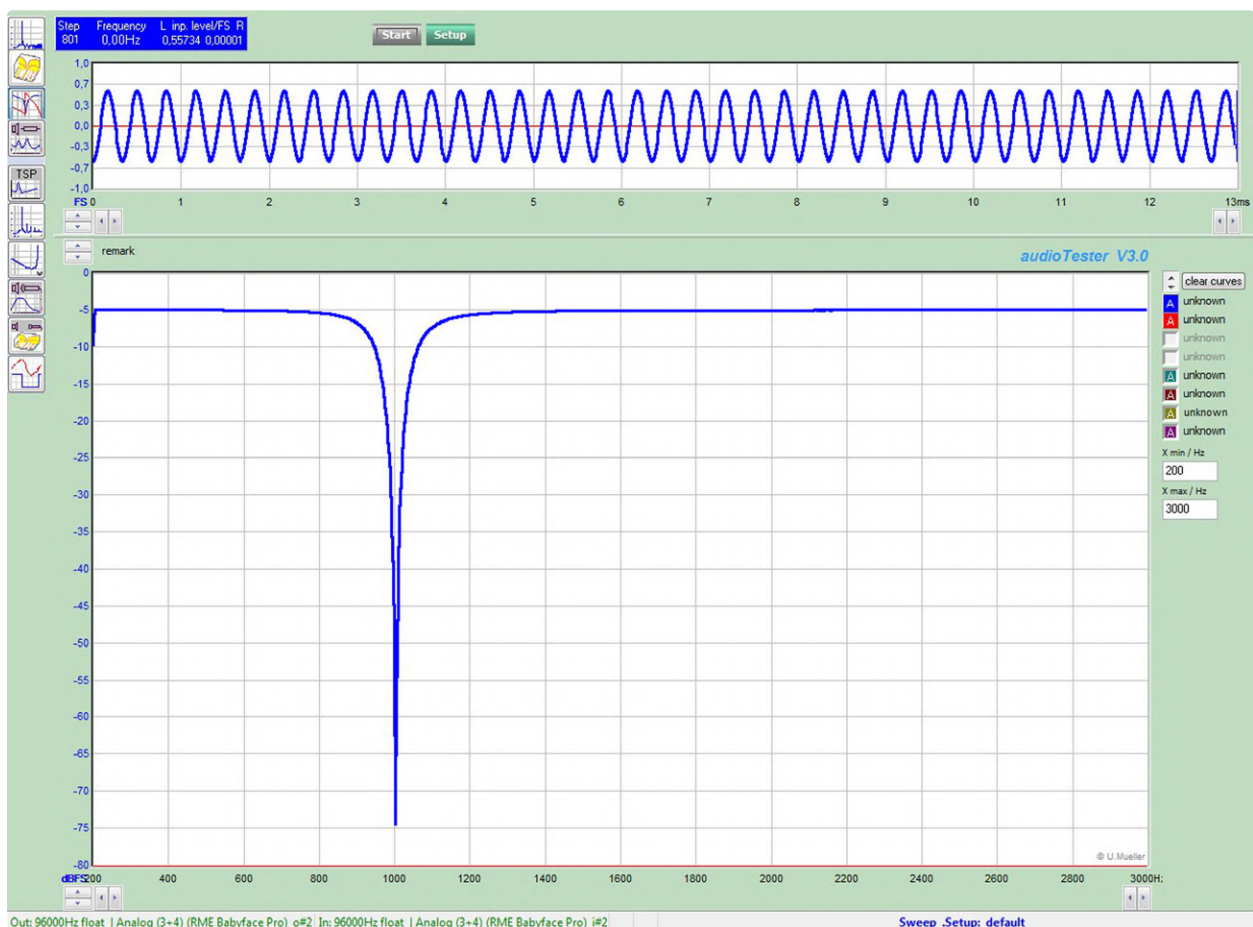

Figure 6: Frequency response of the double Fliege notch filter. The attenuation at the test signal frequency is nearly 70 dB, which is truly good.
**Figure 6** shows the frequency response of the notch filter with the